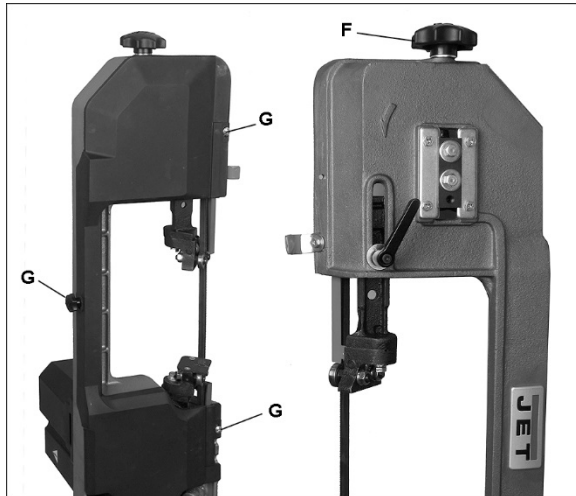

Figure 7-2
2. Open blade cover by removing knob and 2 screws (G, Figure 7-2). Observe position of blade on wheel. If blade is not adjacent to wheel flange, first adjust blade tracking according to *sect. 7.6, Blade tracking*, then proceed to step 3.
3. Turn blade tension handle (F, Figure 7-2) clockwise to tighten blade. Pluck the blade with your finger; a tensioned blade will emit a "twang" sound.
4. Release tension on blade by turning tensioning knob (F, Figure 7-2). Slide blade off wheels.